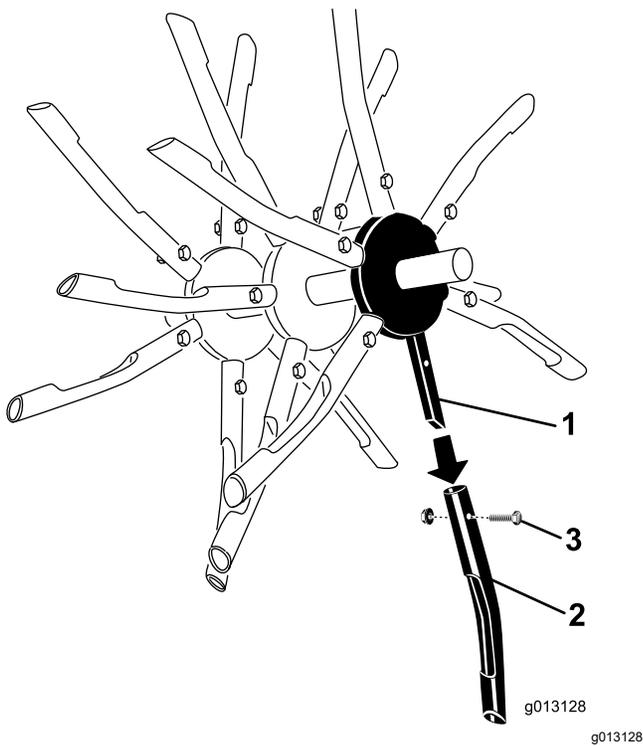

Figure 73
1. Remove the flange-locknut and bolt securing the tine to the tine spider, and remove the tine (Figure 73).